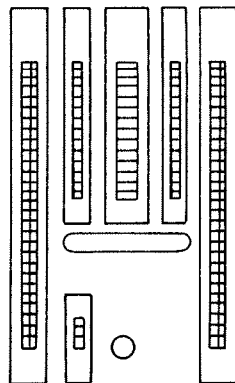
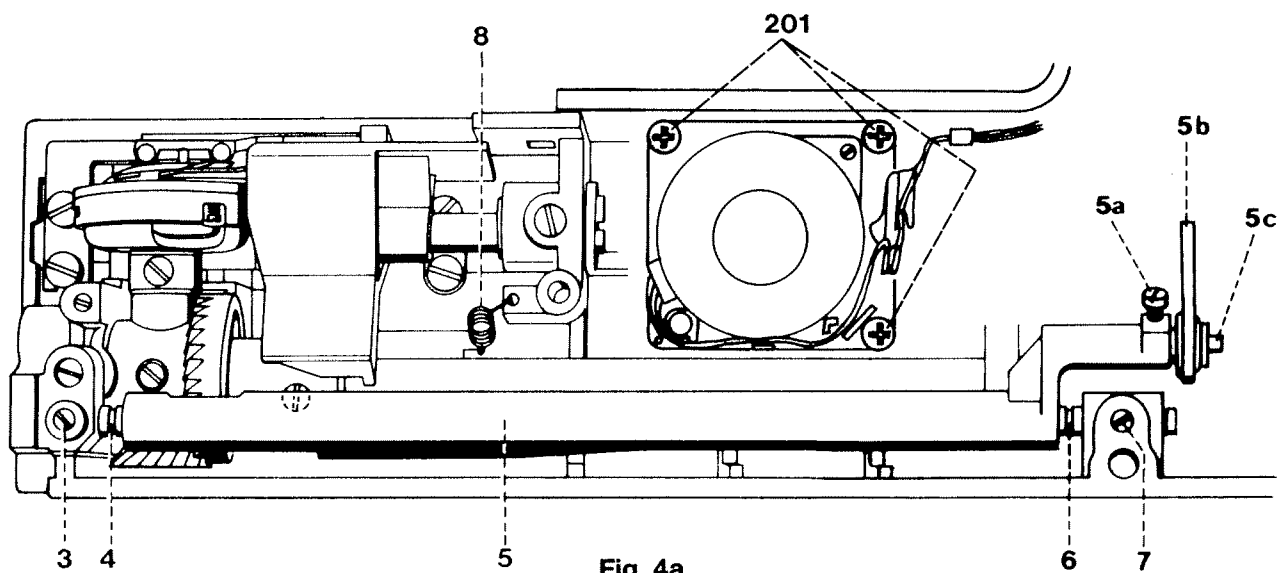

Fig. 4
Fig. 4a
- Loosen the three Philips screws 201 (Fig. 4a) and turn the transverse-drive stepping motor until the feed dog is centered in the feed slots (Fig. 4).
- Lightly tighten the three Philips screws 201 (Fig. 4a).
- If the adjustment is correct, tighten Philips screws 201 (Fig. 4a).
In the highest position of the feed dog, the points of its teeth must protrude above the needle plate surface by 0.85 to 0.9 mm (Fig. 4). The tolerance must not remain under or exceed 0.85 to 0.9 mm.